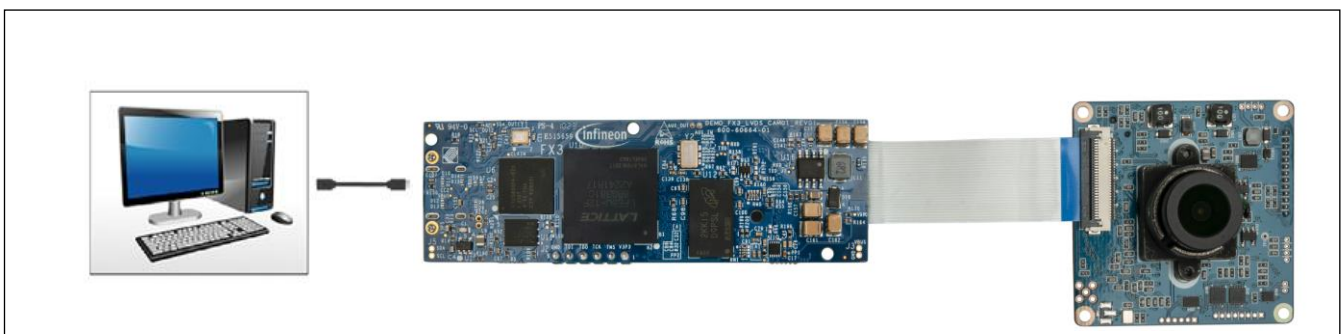

Figure 8 Connecting the kit to the USB port of PC
3. Connect the BT.1120 block camera module provided with the kit to the FPC connector as shown in Figure 8.